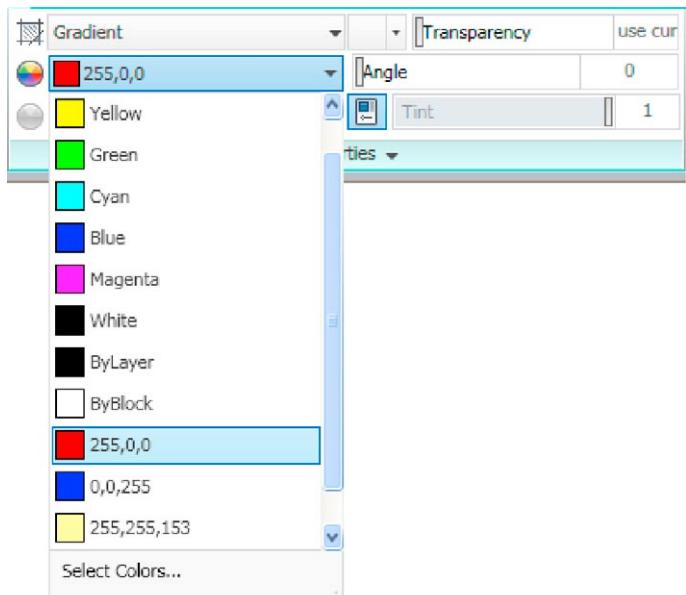

Fig. 8.15 Changing the colours of the Gradient patterns
4. Change the colour of the **Gradient** patterns with a *click* on the red option in the **Select Colors ...** drop-down menu in the **Hatch Creation/Properties** panel. The hatch patterns all change colour to red (Fig. 8.15).